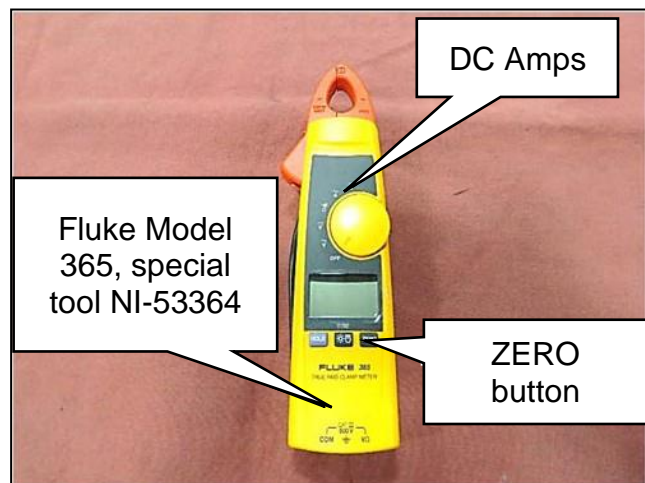

Figure 35
- b. Set the ammeter to DC Amps (Figure 35).
- c. Zero out the ammeter by pressing the **ZERO** button under the display (Figure 35).